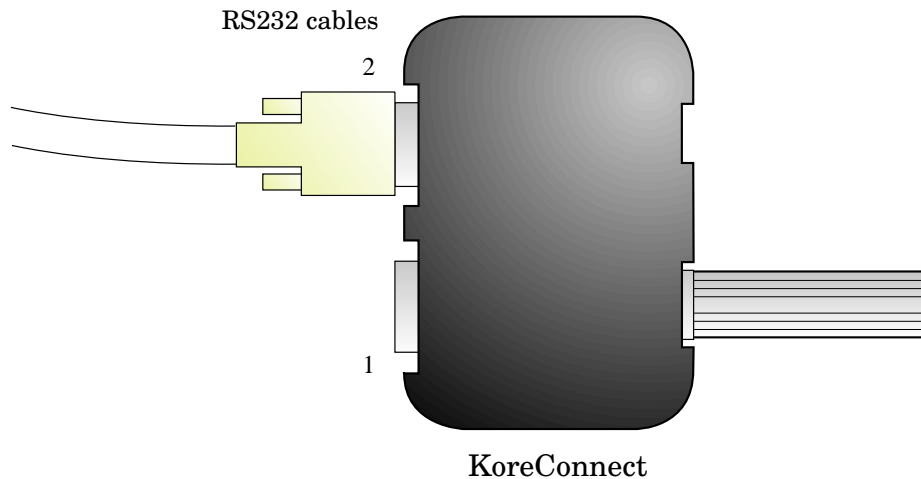

Figure 4.1: Connection when the robot is used without a KoreBotLE.
- The KoreConnect should be connected to the host computer using a standard RS232 cable. in this mode, the cable has to be connected on the DB9 connector number 2 (see fig 4.1). You can easily purchase such a cable from your host computer dealer.